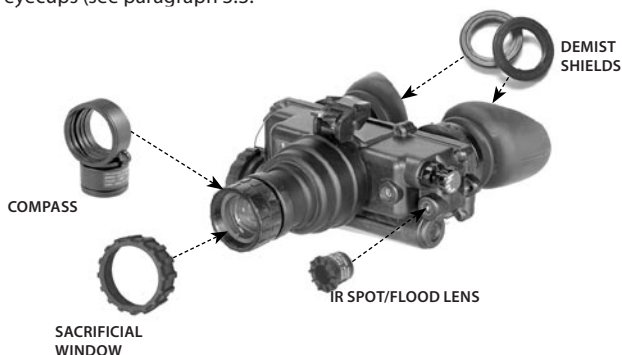

FIGURE 3-3. INSTALLATION OF DEMIST SHIELDS, SACRIFICIAL WINDOW
D. Installation of the Demist Shields. Perform the following procedure to install the demist shields on the diopter lenses. Refer to Figure 3-3.
E. Installation of the sacrificial Window. Perform the following procedure to install the sacrificial window. Refer to Figure 3-3.